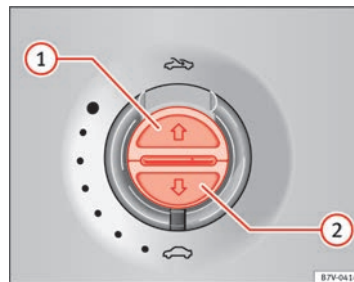

Fig. 60 On the interior roof lining: switches for the sun blind
To open completely (automatic):	Press the button ⇒ Fig. 60 (1) briefly.
To stop automatic operation:	Press the button ⇒ Fig. 60 (1) or ⇒ Fig. 60 (2) .
To set the intermediate position:	Hold the button ⇒ Fig. 60 (1) or ⇒ Fig. 60 (2) until the required position is reached.
To close completely (automatic):	Press the button ⇒ Fig. 60 (2) briefly.
- *Sun blind*: Within five seconds of triggering the anti-trap function, push the ⇒ Fig. 60 button until the sun blind closes completely.